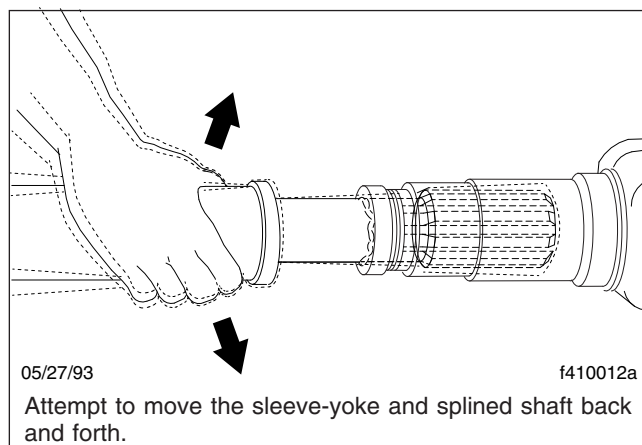

Fig. 4, Slip Joint Spline Wear Checking
6. Check slip joints for spline wear by moving the sleeve-yoke and splined shaft back and forth. See **Fig. 4**. If the slip joint can be twisted in a clockwise, or counterclockwise movement greater than 0.007 inch (0.18 mm), replace both the sleeve-yoke and the splined shaft.